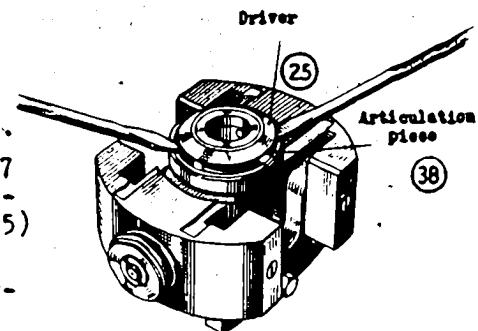

Fig. 1
1. Clamp fuel injection pump with governor attached on clamping support EF 8498. Unscrew guide pin (6) and screws fixing the governor cover (17). Where the control rod stop is mounted on the governor end, it has to be taken off. After removing the protection cap (51), the control rod stop can be lifted off by turning and inclining. The control rod should be pushed to its "stop" position for this purpose.
2. As the governor cover is sealed with a sealing composition, use rubber mallet to loosen it, and take precautions to collect the lubricating oil. Holding control lever (16) vertically, lift governor cover off upwards.
3. Remove link pin (18); suspend link fork (19) temporarily.
4. Retract slider (4) together with floating lever (15). The drag spring in the adjusting pin will yield. After tilting the floating lever by 90°, detach it together with the slider.
5. Bend up tab washer (23) on coupling bolt (24). Unscrew both hexagon nuts, extract coupling bolt; detach adjusting pin (7).
6. Remove securing wire (2), unscrew fixing screws, and detach guide bush (3).
7. Holding the camshaft on the coupling or on the injection timer, unscrew round (fixing) nut (28) with spanner EF 8101 E (for governor size A) or with EF 8101 D (for governor size B).
8. Use extractor EF 8449 or EF 8207 (for governors size A and B, respectively) to detach driver (25) from the camshaft.
9. Lift the driver (25) off the articulation piece (38) with the aid of two screwdrivers (see Fig. 1); then remove rubber buffer (29).